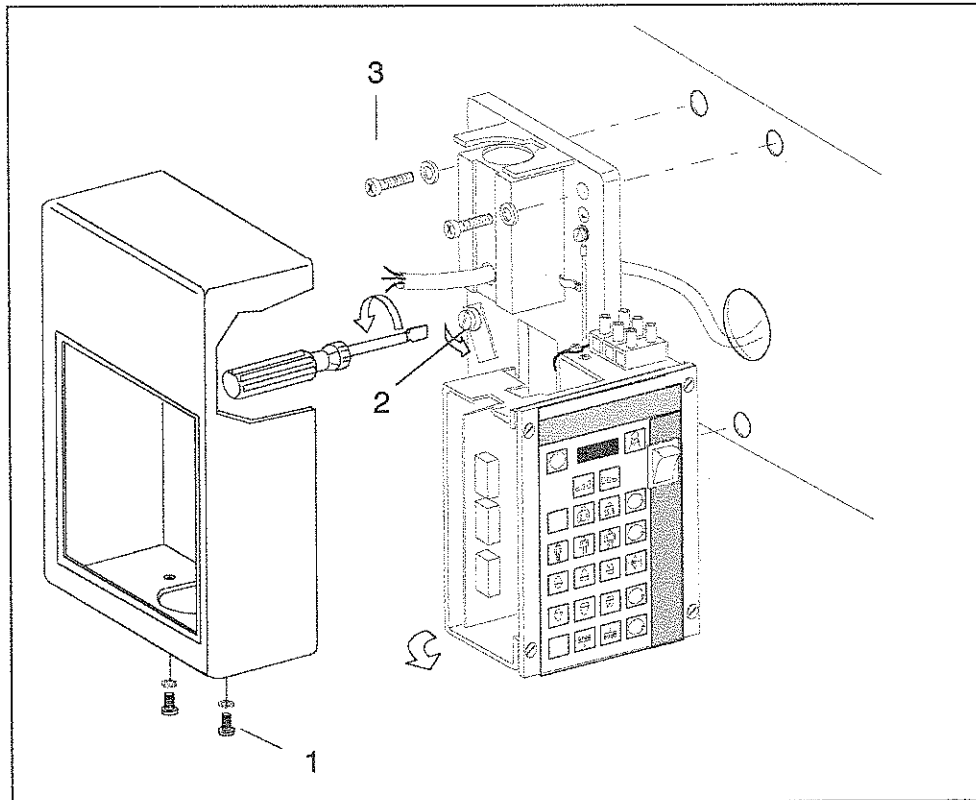

Figure 6-5
3. Referring to Figure 6-5 below, remove wall plate/Timer external cover by loosening the two screws (1) located in the bottom part of the plate.
4. Loosen the internal screw (2) fixing the components plate and rotate the support by 90°.